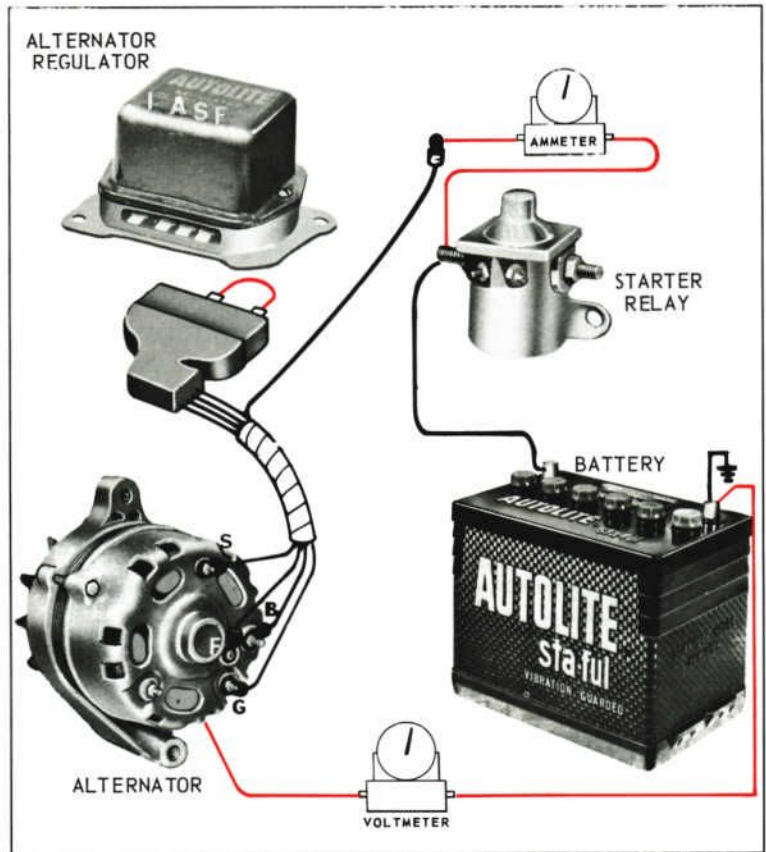

FIGURE 29. GROUND CIRCUIT RESISTANCE TEST
- Ground Side – Refer to Figure 29.